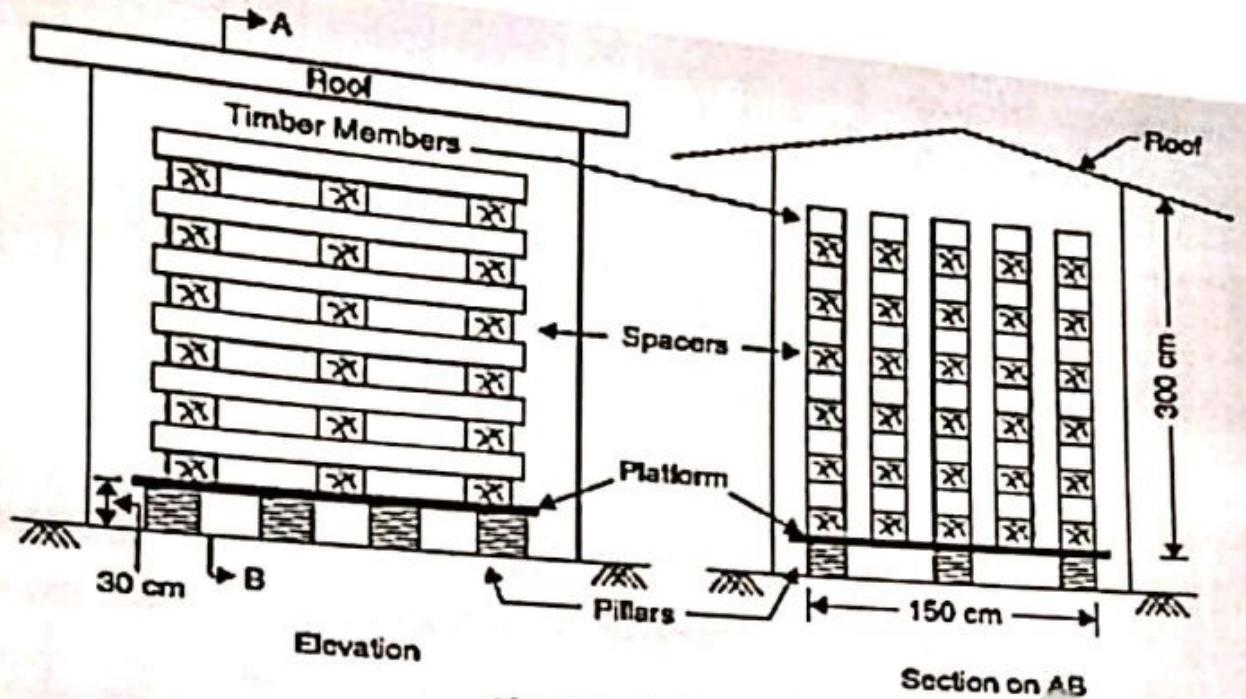

Fig. 1.8. Air seasoning
- (i) Natural Seasoning: It may be air seasoning or water seasoning. Air seasoning is carried out in a shed with a platform. On about 300 mm high platform timber balks are stacked as shown in Fig. 1.8.